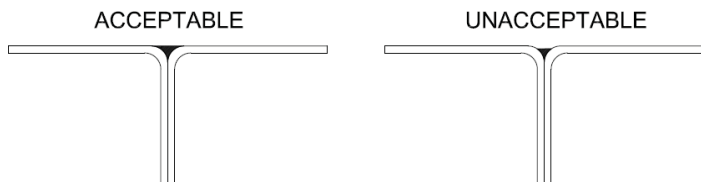

Figure 10 Properly Caulk Seams
STEP 6: Check all splits to ensure proper bolting and caulking. See fig.10